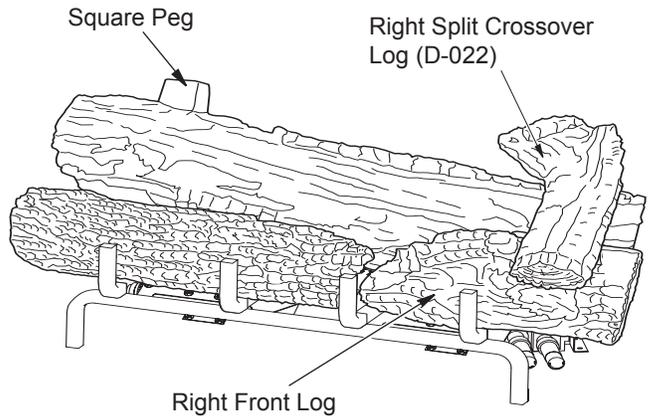

Figure 22 - Installing Right Split Crossover Log
- Find the right split crossover log (D-022). The bottom of the log has a rectangular stand off that fits in the slots on the right side of the front right log and the middle split log. Place this log as shown in Figure 22.